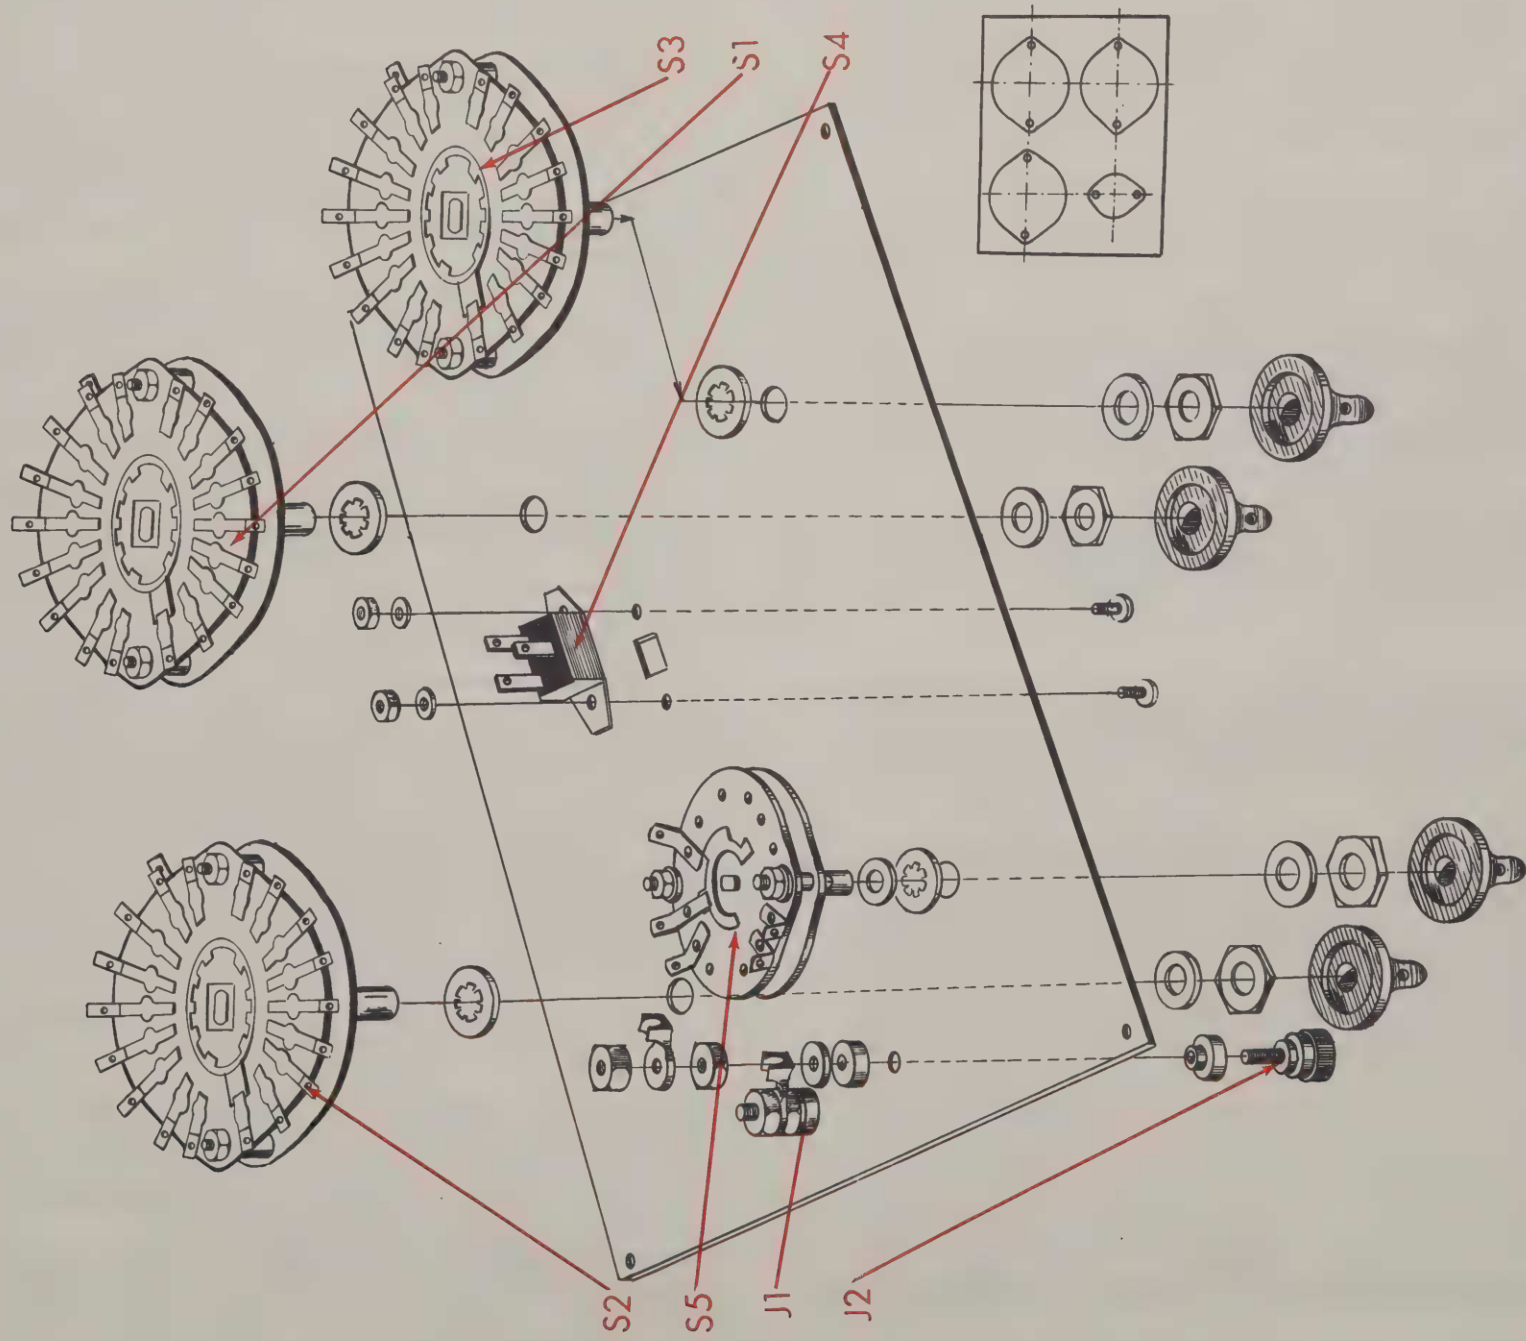

Fig. 1
1. (✓) Fig. 1. Turn switches S1, S2 and S3 to the maximum counter-clockwise position. In this position, the rotor hits contact #1. Mount each switch as shown, using one $\frac{3}{8}$ lockwasher behind the panel, one $\frac{3}{8}$ flatwasher and one $\frac{3}{8}$ hex nut on the front of the panel.
2. (✓) Fig. 1. Mount slide switch, S4 as shown. Use two #4-40 screws, two #4 lockwashers and two #4-40 hex nuts.
3. (✓) Fig. 1. Turn the small rotary switch, S5 to maximum counter-clockwise position. Mount as shown using one $\frac{3}{8}$ lockwashers behind the panel, one $\frac{3}{8}$ flatwasher and one $\frac{3}{8}$ hex nut on the front of the panel.
4. (✓) Fig. 1. Mount the insulated binding posts, J1 and J2 as shown. Mount each jack, using a bakelite shoulder washer on the front of the panel and a bakelite flatwasher behind the panel. Tighten each post with one #8 lockwasher and one #8-32 hex nut. Slide a #8 lug over the nut and secure with another #8-32 hex nut as shown.